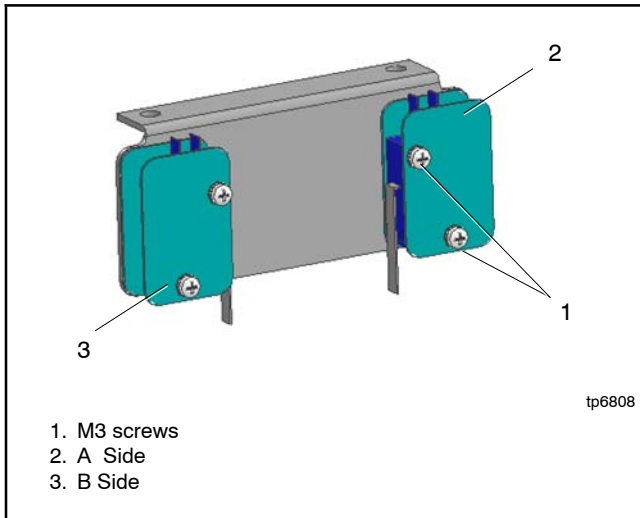
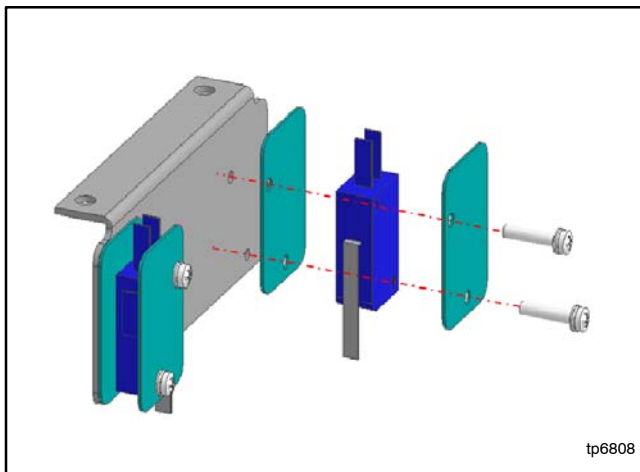

Figure 7-65 Microswitch Screws
Figure 7-66 Microswitch and Separators
3. Remove two M3 screws to remove the microswitch and separators. See Figure 7-65 and Figure 7-66.